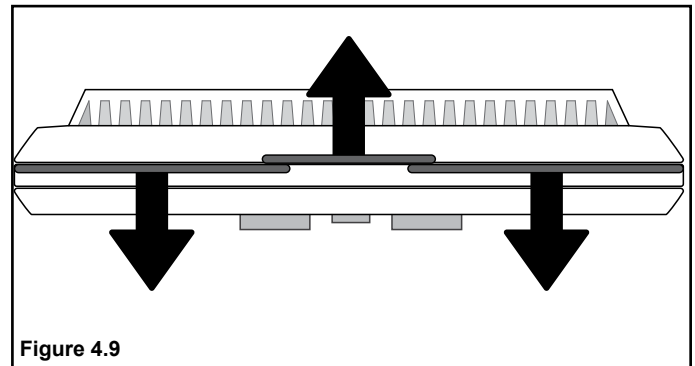

Figure 4.9
1. Separate the body of the thermostat from the mounting plate by gently pulling the two pieces apart. See Figure 4.9.